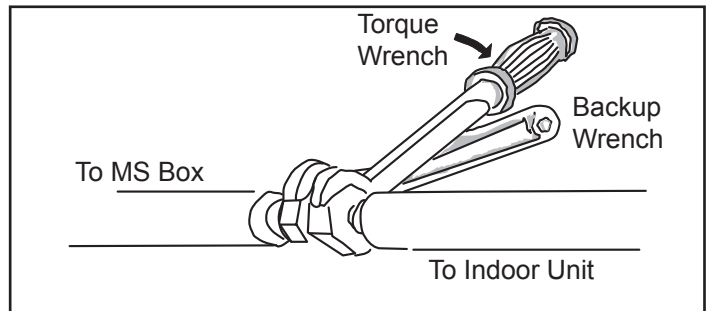

Figure 6. Tighten Flare Nut
6. Then, use two wrenches to continue to tighten the nuts without twisting the pipes. Once snug, continue another half-turn on each nut which should create a leak-free joint. A torque wrench may be used to tighten flare nuts using table 3 recommendations. See figure 6. **Do not over-tighten a flared joint. Flared connections should always be accessible and must be insulated to prevent condensation.**